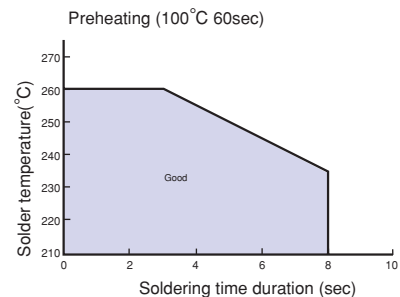

Fig 5
*) Even under the conditions shown in fig 5, types P2S, may pose problems according to circuit board thickness and preheating conditions. So, please pay attention to this point.